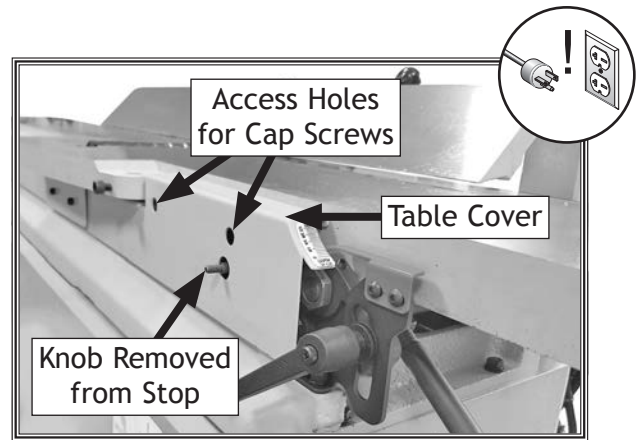

Figure 51. Accessing infeed table stop.
2. Remove table release knob by unthreading it (see **Figure 51**), and then remove infeed table covers (see **Figure 51**) by removing plugs and cap screws that secure covers to table.